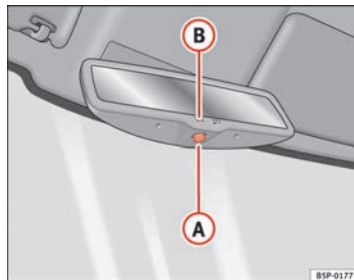

Fig. 65 Automatic anti-dazzle interior mirror.
- Press button **A** ⇒ fig. 65. Indicator lamp **B** goes off. ▶
- Press button **A** ⇒ page 103, fig. 65. The indicator lamp turns on.